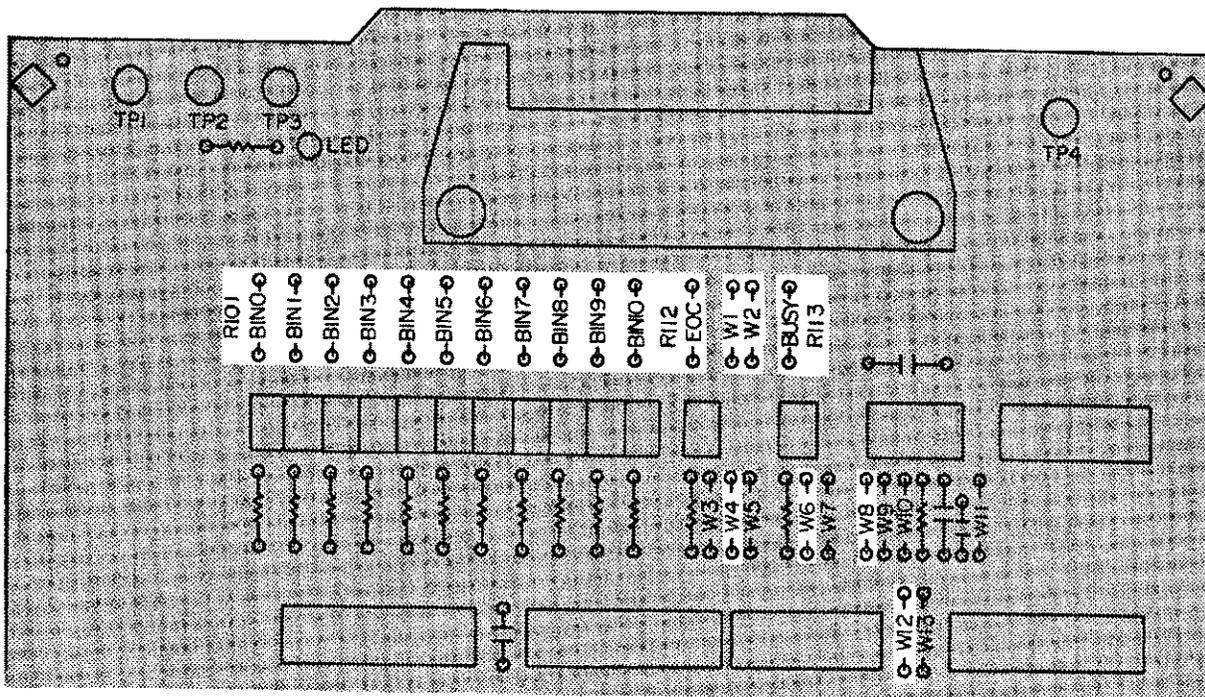

Figure 4-28. Palomar M11 Jumper and Pull-up Resistor Locations
1. Configure the following interface signals by installing the jumpers as shown in Figure 4-28.
2. All I/O signals are TTL level so you must install all pull-up resistors to + 5V ( install pull-up resistors **R101 ~ R113** ). Refer to Figure 4-28 for the pull-up resistor locations.
3. Bring + 5V out through pins 12 and 17 of the handler interface rear panel connector ( install a jumper at **W1** for + 5V and at **W2** for the **COMMON** connection ). Refer to Figure 4-28 for the locations of **W1** and **W2**.